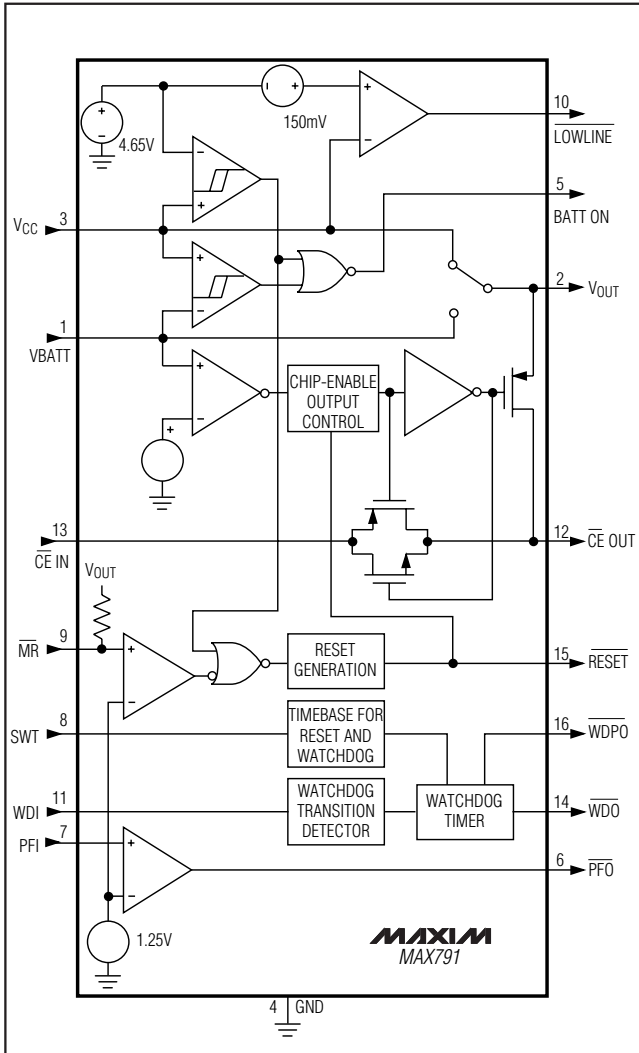

Figure 1. MAX791 Block Diagram
Many  $\mu$ P-based products require manual-reset capability, allowing the operator or test technician to initiate a reset. The Manual Reset Input (MR) can be connected directly to a switch, without an external pull-up resistor or debouncing network. It connects to a 1.25V comparator, and has a pull-up to  $V_{OUT}$  as shown in Figure 1. The propagation delay from asserting MR to RESET asserted is  $4\mu$ s typ. Pulsing MR low for a minimum of  $15\mu$ s resets all the internal counters, sets the Watchdog Output (WDO) and Watchdog-Pulse Output (WDPO)